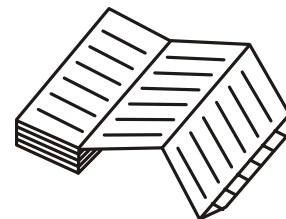

Fig. 3
3. Disconnect the battery connector and remove 2 screws fixing the battery mounting plate. (Fig. 3)
3. As shown in Fig. 3, insert the recording paper with the "begin" tab placed in the cartridge. Check that the printed side is facing out.